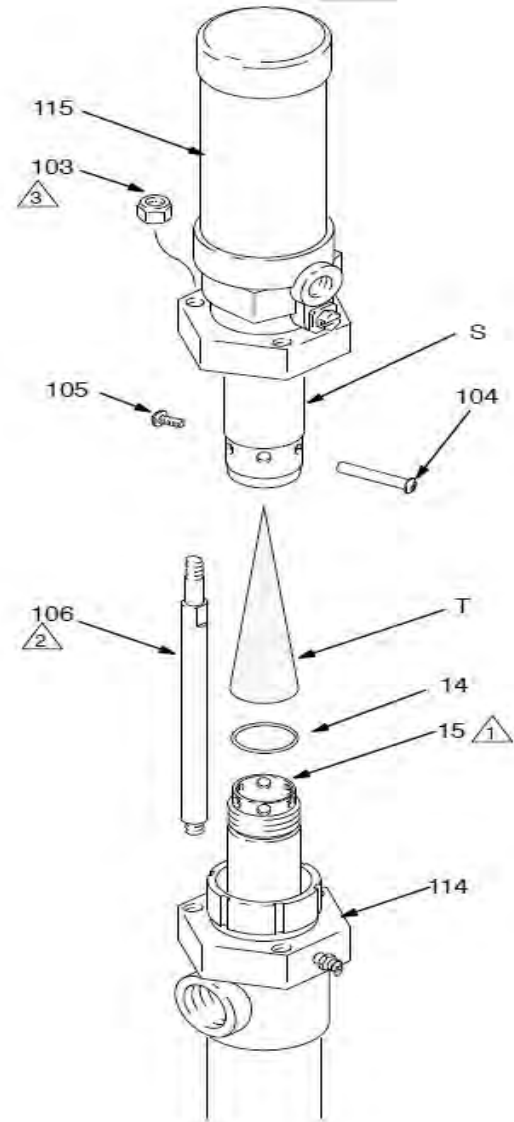

FIG. 6
3. See FIG. 6. Unscrew the tie rod locknuts (103).
4. Unscrew and remove the screw (105) and barrel (104).
5. Raise the air motor (115) away from the displacement pump (114). Unscrew the displacement rod (15) from the air motor connecting rod (S).
1. When reconnecting the air motor, use lithium base grease on the threads of the displacement rod (15). Make sure the o-ring (14) is in place on the rod.
2. Insert the muffler (T) into the air motor connecting rod (S) as shown in FIG. 6.
3. Tighten the displacement rod (15) into the air motor connecting rod hand tight, and install the barrel and screw set (104 and 105).
4. Apply thread sealant to the threads of the tie rods (106). To ensure proper alignment, first thread the tie rod locknuts (106) loosely onto the tie rods, then torque evenly to 15 N•m (8 ft-lb).